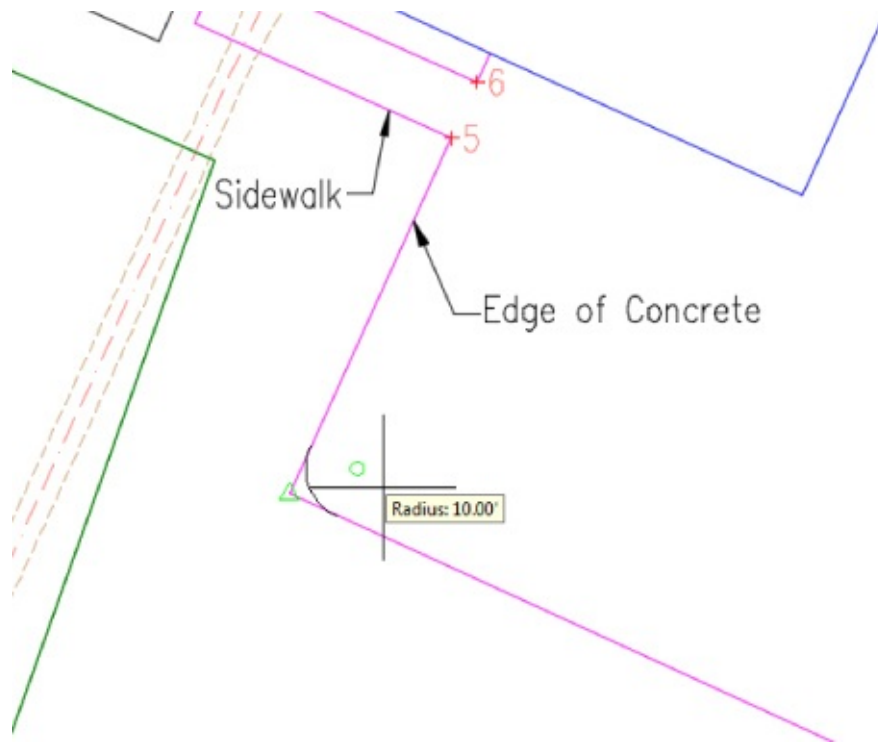

Figure 14.18 Filletting the southwest corner of the magenta feature line
31. Hover the cursor over the southwest corner of the magenta feature line, as shown in Figure 14.18.